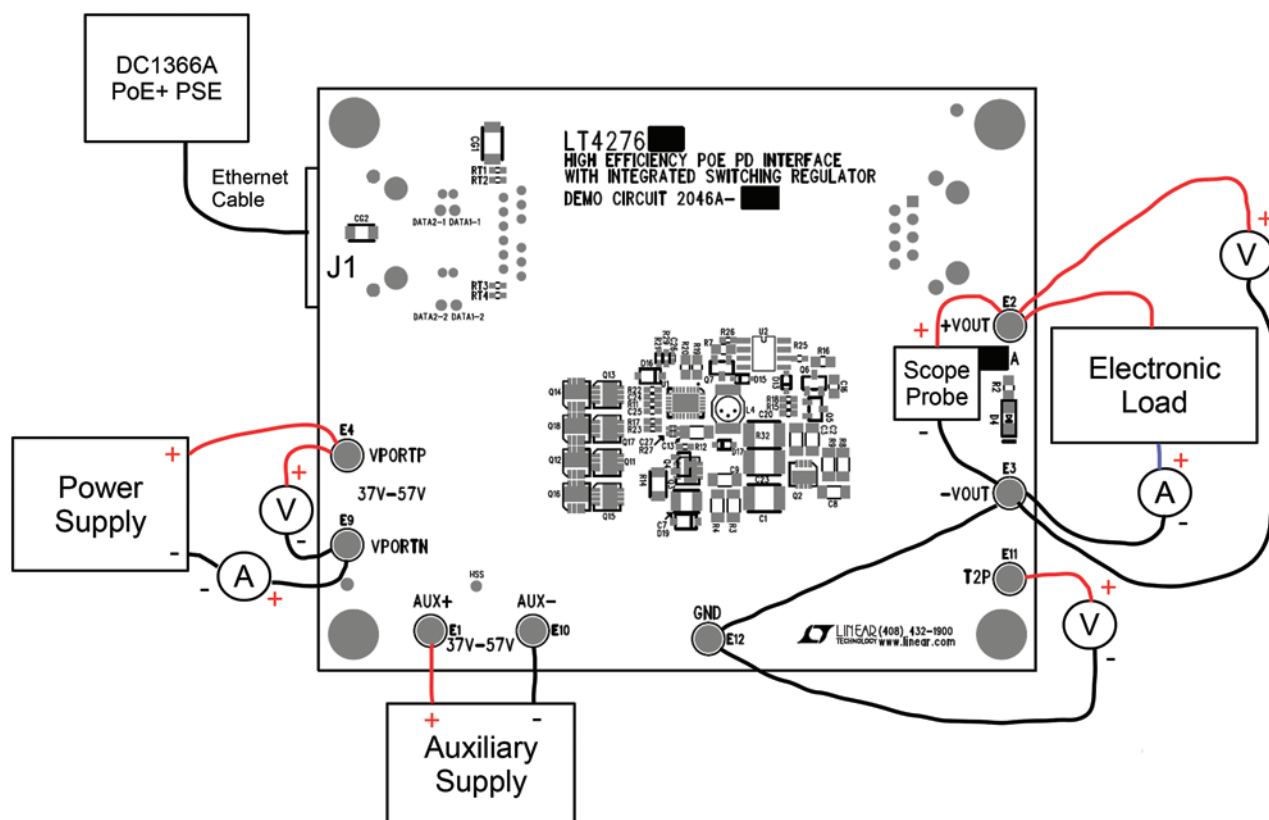

Figure 8. Proper Measurement Equipment Setup
Demonstration circuit 2046A-B is easy to set up to evaluate the performance of the LT4276 in a PoE+ application. Refer to Figure 8 for proper equipment setup and follow the procedure below.
1. Place test equipment (voltmeter, ammeter, power supplies, and electronic load) as shown in Figure 8.
- A) Connect a PoE+ capable PSE with a CAT-5 cable to the RJ45 connector, J1. See Figure 8.
- B) Or, connect a 37V to 57V capable power supply (Power Supply in Figure 8) across V_{PORTP} and V_{PORTN} .
- C) If evaluating the auxiliary power supply (Auxiliary Supply in Figure 8), connect a 37V to 57V capable power supply across AUX+ to AUX-.